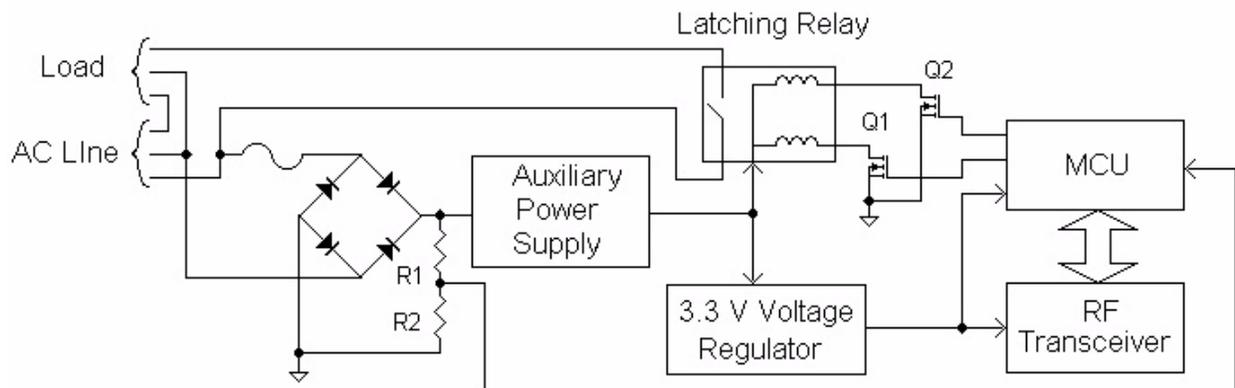

Figure 3. AC Power Switching Relay with ZAURA Control Demonstration Board Block Diagram
The dimensions of the Power Board are 2.85 (L) x 1.85" (W) x 0.7" (H). A block diagram of the Board is shown in Figure 3.